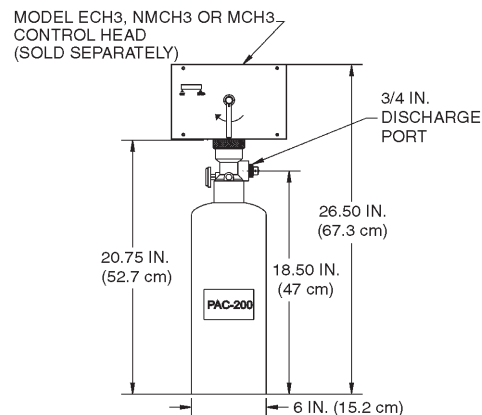

Figure 2-8. Model PAC-200 Pneumatic Actuating Cylinder.
The Model PAC-200 is a pneumatic actuating cylinder that can actuate a maximum of twenty (20) agent cylinders simultaneously. The Model PAC-200 includes a DOT 4BA350 cylinder pressurized with dry nitrogen to 350 PSIG @ 70° F., a brass valve with pressure gauge, and a wall mounting bracket. A Model MCH3, NMCH3, or ECH3 control head must be purchased separately and connected to the PAC-200 to open the valve. See **Figure 2-8**.